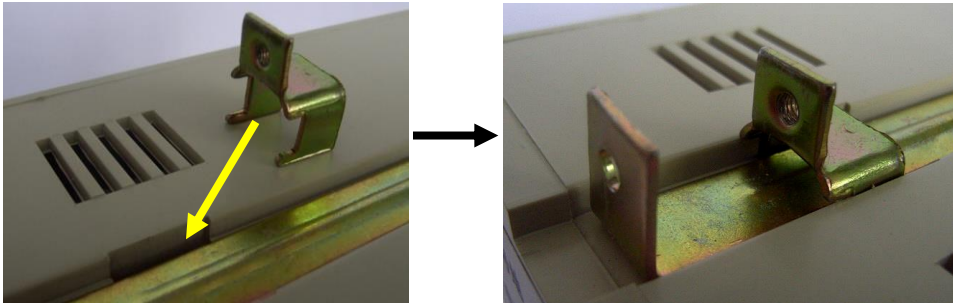

Figure 8. Mounting the short bracket
5.2.3 Mounting the short bracket (figure8).